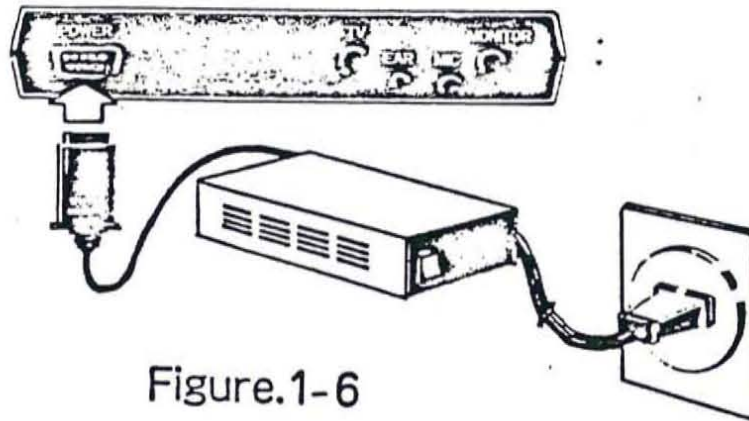

Figure.1-6
1. Plug the power cord of the Switching Power Supply into the wall outlet. (Fig.1-6)
4. Connect the DC output line of the Switching Power Supply to your MPF-II. (Fig.1-6)